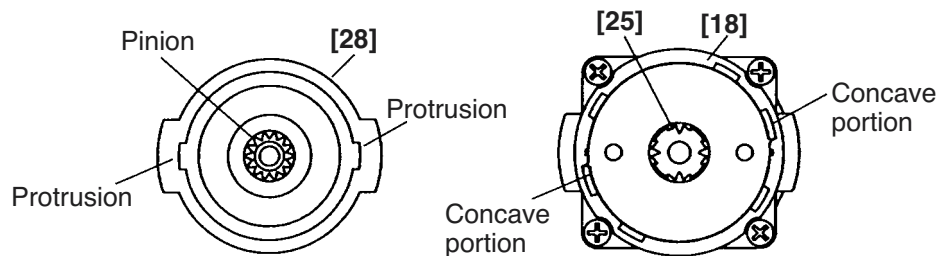

Fig. 10
(6) Reassembly of the drive unit
(a) Fit the protrusion of the Motor Spacer [28] in the concave portion of the Rear Case [18] engaging the pinion of the Armature DC 9.6V [29] with Planet Gear (A) Set (4 pcs.) [25]. Turn it fully clockwise viewing from the rear of the Armature DC 9.6V [29] (see Fig. 10).